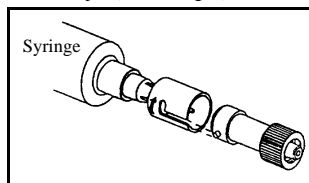

Fig. 9
- Press UserGard® hub onto injection site and twist to lock on pin (refer to Fig. 9).